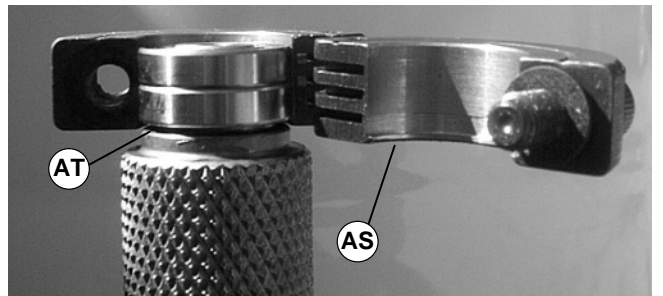

Figure 35
1. Place bearing removal tool (part # 450281) over bearing(s) with lip (AS of Figure 35) located in Bearing gap (AT) as shown.